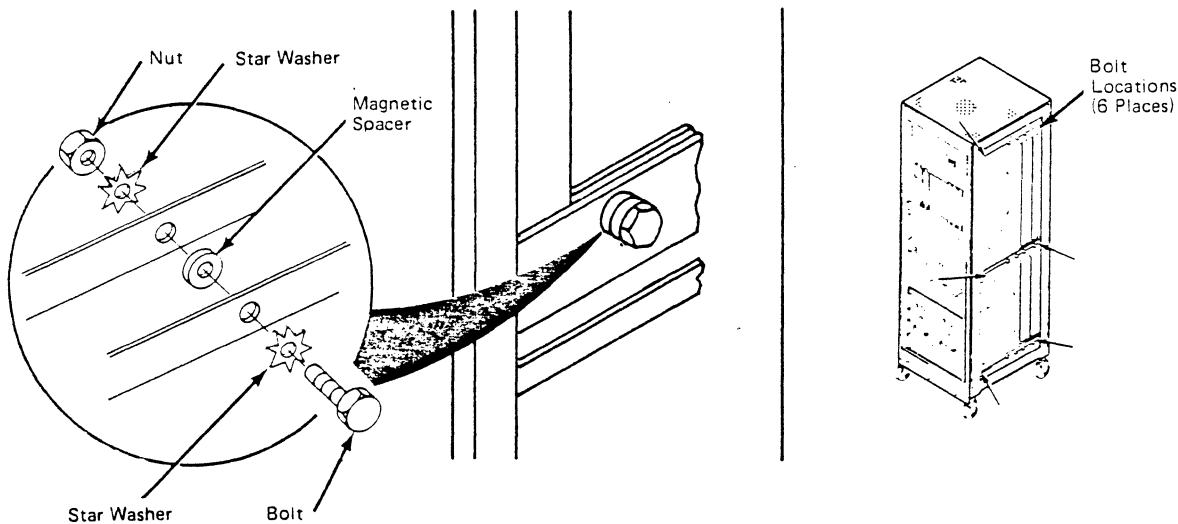

Figure 7-13. View of Units Bolted Together
14. Loosely place a bolt, star washer, magnetic spacer, star washer, and nut in each of the six locations shown in Figure 7-13. Make sure the spacer and star washers are positioned correctly as shown in Figure 7-13. After all six locations (Figure 7-13) are installed, tighten the nuts.